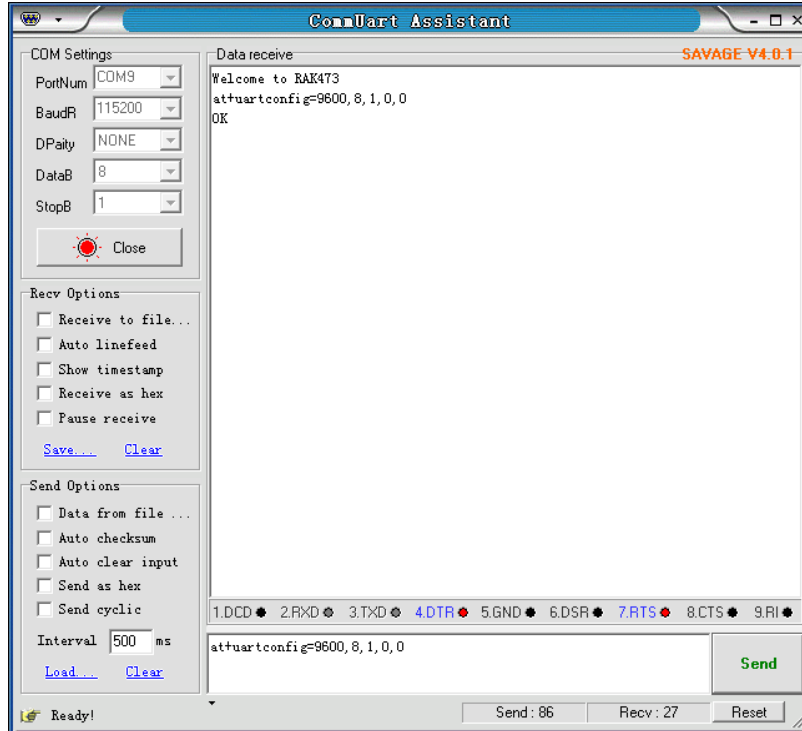

Figure 1-1 Set the baud rate of the module with the serial port command
2. Send the "configure UART parameters" command (Figure 1-1), to configure the UART parameters.